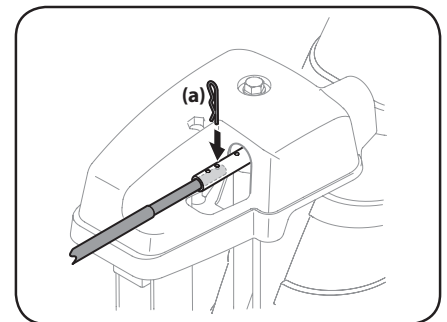

Figure 2-41
6. Push chute control rod toward the control panel until hole in rod lines up with middle hole in chute control input and insert cotter pin (a) removed in Step 1. See Figure 2-41.